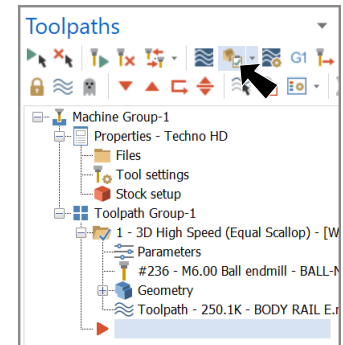

Fig. 22
Step 2. In the Toolpaths Manager **Verify** , **Fig. 22**.